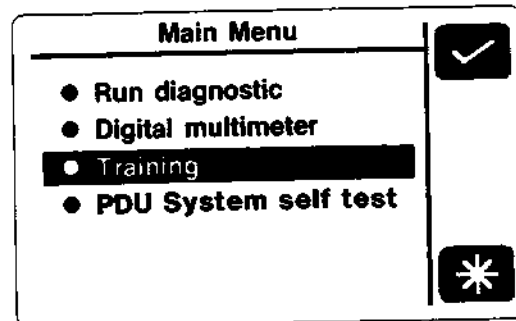

Figure 12. The main menu
6. The PDU will then load its software from the CD-ROM and display the 'main menu' (Fig 12).